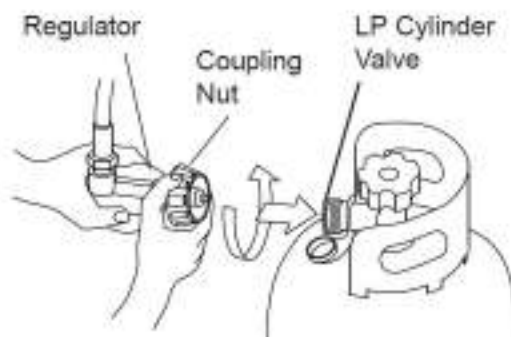

Figure 2
2. To connect LP cylinder, insert regulator end fitting into cylinder valve, rotate coupling nut clockwise and tighten firmly (see Figure 2)